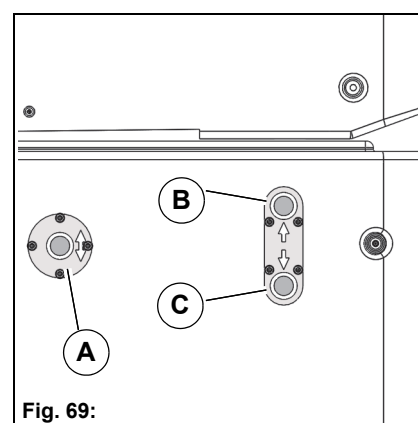

Fig. 69:
- Raise tipper: Press the button **Fig. 69-A** and the button **Fig. 69-B** simultaneously
- Lower tipper: Press the button **Fig. 69-A** and the button **Fig. 69-C** simultaneously